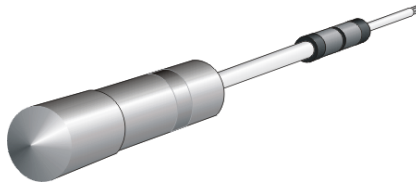

Figure 1-8 Torque Tool and Hex Adapter
- **Torque tool with hexagonal adapter** - The torque tool with 5/32" hexagonal adapter (Figure 1-8) is required to remove and replace director logic cards.